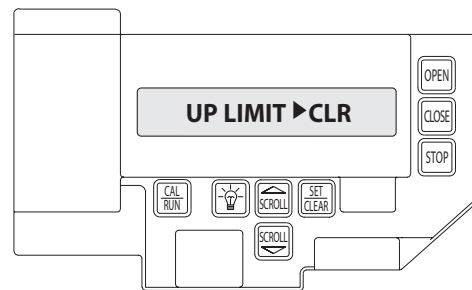

Figure 7
- 2) Press SCROLL  until display reads "UP LIMIT>CLR " or "DOWN LIMIT>CLR " **Figure 7.**